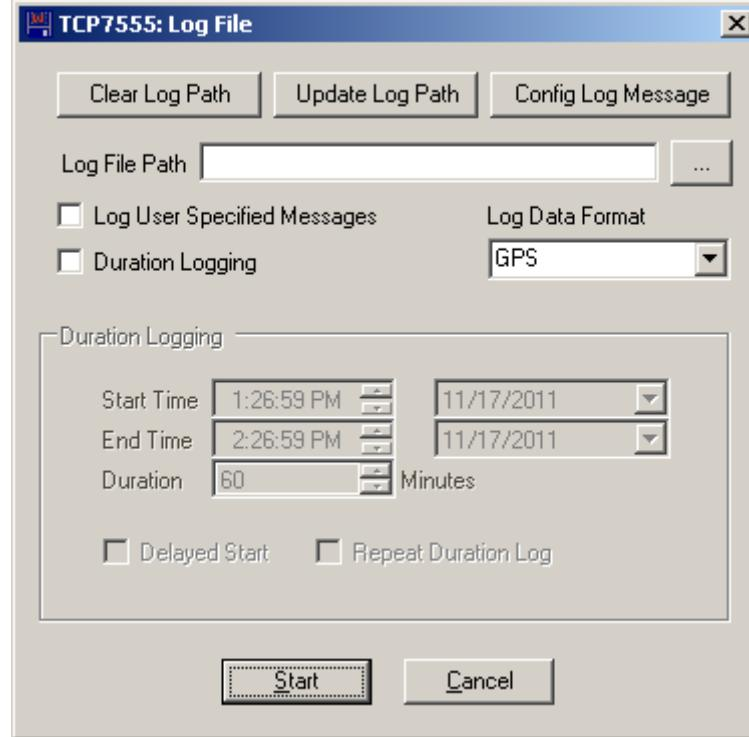

Figure 5.13: Log File Window
- Use the menu option **File / Log File / Start...**, a **Log File** window appears, see Figure 5.13.